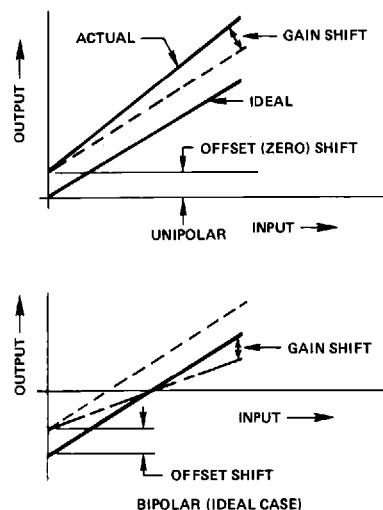

Figure 3. Unipolar and Bipolar Drifts
Temperature error analysis in the unipolar mode is straightforward: there is an offset drift and a gain drift. The offset drift (which comes from leakage currents and drift in the output amplifier (OA)) causes a linear shift in the transfer curve as shown in Figure 3. The gain drift causes a change in the slope of the curve and results from reference drift, DAC drift, and drift in R_{GAIN} relative to the DAC resistors.
Note that if the DAC and application resistors track perfectly, the bipolar offset drift will be zero even if the reference drifts. A change in the reference voltage, which causes a shift in the bipolar offset, will also cause an equivalent change in I_{REF} and thus I_{DAC} , so that I_{DAC} will always be exactly balanced by I_{BP} with the MSB turned on. This effect is shown in Figure 3. The net effect of the reference drift then is simply to cause a rotation in the transfer around bipolar zero. However, consideration of second order effects (which are often overlooked) reveals the errors in the bipolar mode. The unipolar offset drifts discussed before will have the same effect on the bipolar offset. A mismatch of R_{BP} to the DAC resistors is usually the largest component of bipolar drift, but in the AD DAC80 this error is held to 10ppm/°C max. Gain drift in the DAC also contributes to bipolar offset drift, as well as full scale drift, but again is held to 10ppm/°C max.